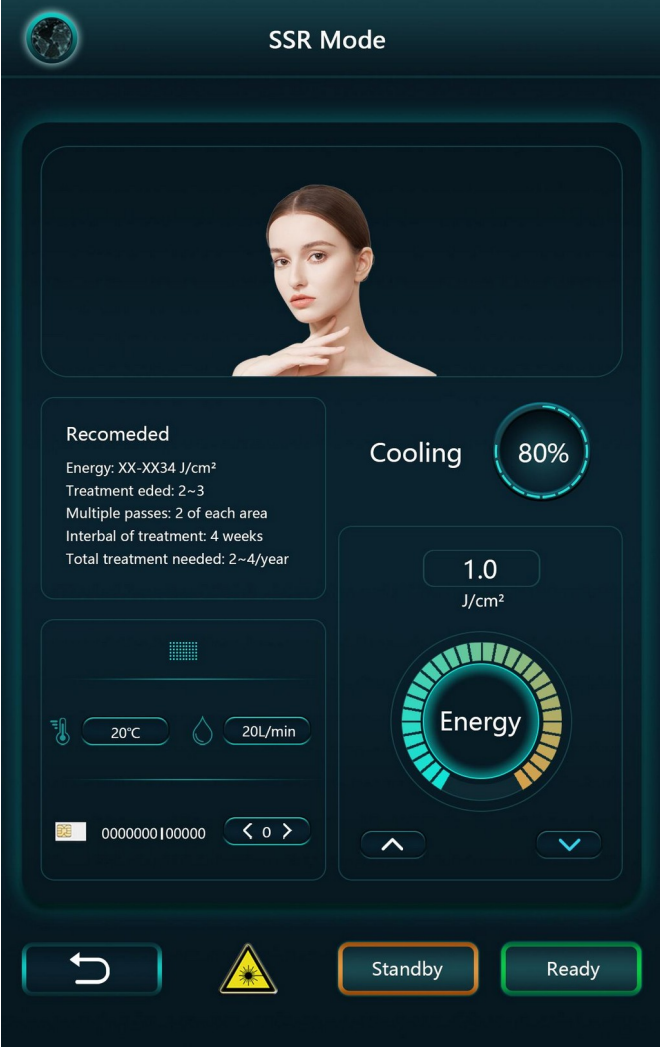

Figure 5.35
7) In SSR Mode, the system will recommend all parameter settings, as well as the filter and energy level settings. You are only allowed to adjust the energy and cooling levels. Once you press "Ready," the system will stop blinking the "Recommended" icon (see Figure 5.35).
For women, there are face and body SSR options to select from (see Figures 5.35 and 5.36).